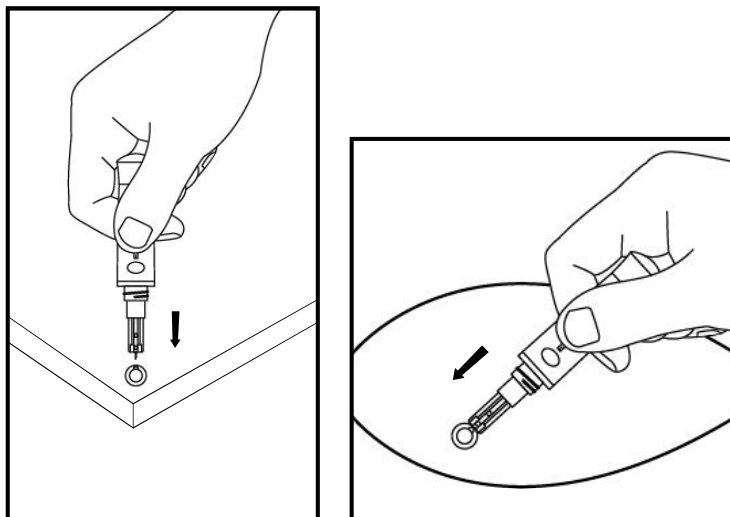

Fig. 30
Step 10: Unscrew the lancet device cover. Place the safety tab of the lancet on a hard surface and carefully insert the lancet needle into the safety tab. Press the release button to make sure that the lancet is in the extended position. Slide the ejection button forward to eject the used lancet. Place the lancet device cover back on the lancet device. (Ref Fig. 30)